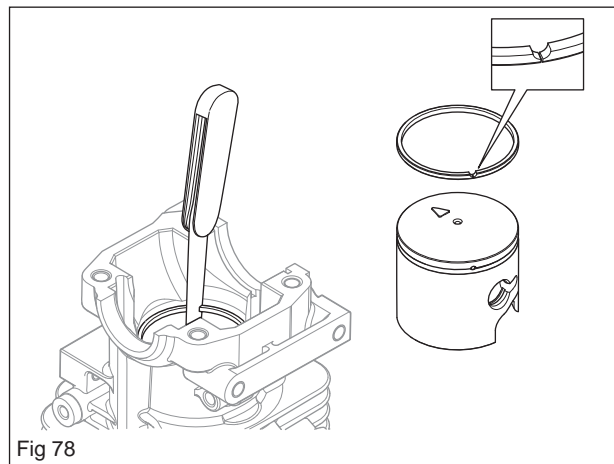

Fig 78
- Remove the piston ring from the piston to measure the wear. Use the base of the piston to push the piston ring down into the cylinder. The opening in the ring must not exceed 1 mm. Put the piston ring back into the piston slot and make sure it is the right way around (see figure 78).